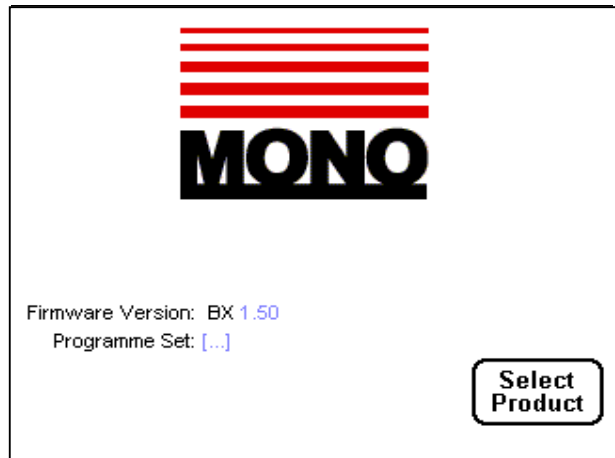

**Fig 6**
**(5)=10 places down** and **(6) = 10 places up (see fig 6)**